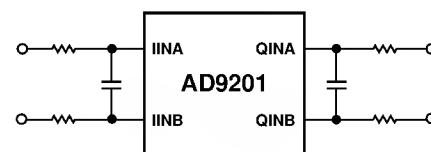
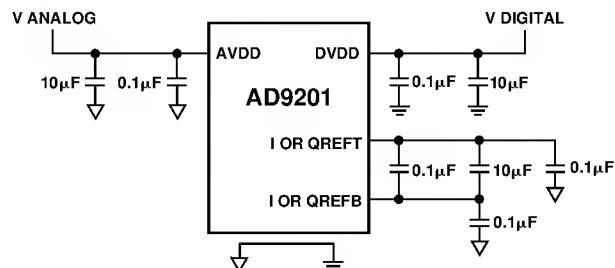

Figure 20. Input Loading
Figure 21. Reference and Power Supply Decoupling
**Crosstalk:** The internal layout of the AD 9201, as well as its pinout, was configured to minimize the crosstalk between the two input signals. Users wishing to minimize high frequency crosstalk should take care to provide the best possible decoupling for input pins (see Figure 20). R and C values will make a pole dependant on antialiasing requirements. Decoupling is also required on reference pins and power supplies (see Figure 21).